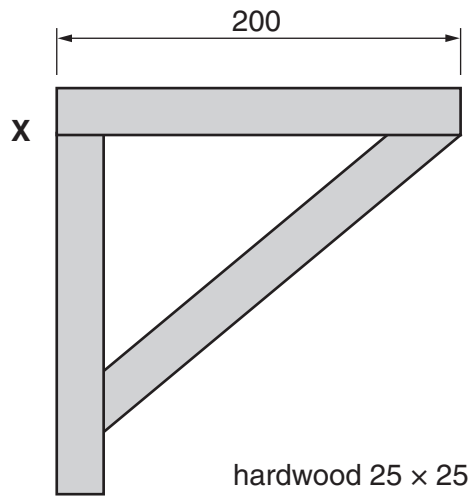

Fig. 16
- (d) Fig. 16 shows details of one bracket used with Design A.
(ii) Sketch and name a suitable joint at **X** in Fig. 16.